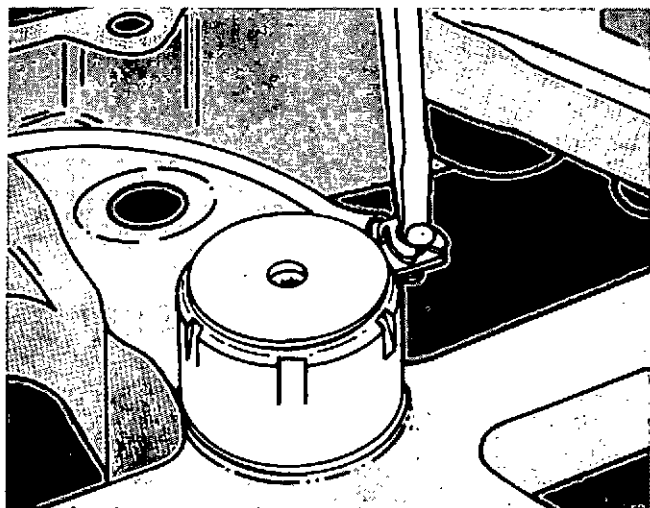

Fig. 20-10. Install The Electrical Wiring To The Solenoid Valve.
6. Install the electrical wiring onto the solenoid in the Jacobs Brake units, Fig. 20-10. Connect the other end of the wiring to the inside terminal of the leadout assembly in the brake housing.